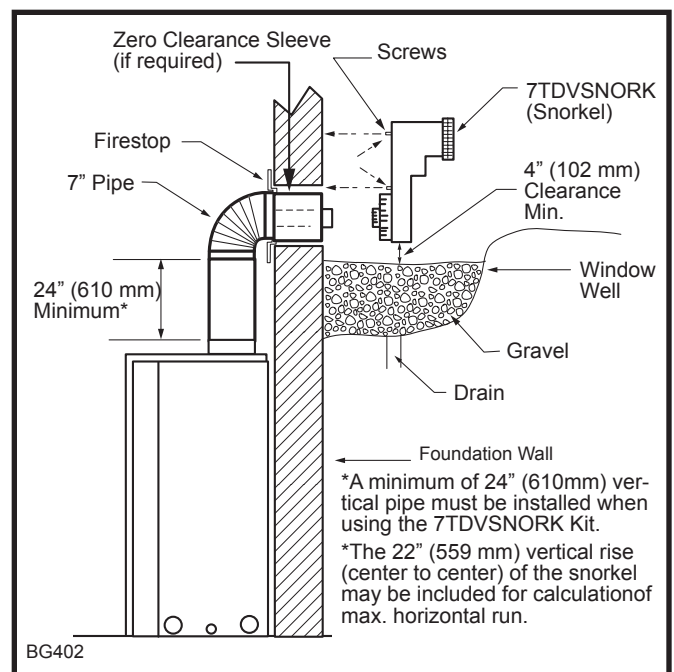

Fig. 26 Below grade installation.
7. Level the soil to maintain a 4" (102 mm) clearance below snorkel. (Fig. 26)